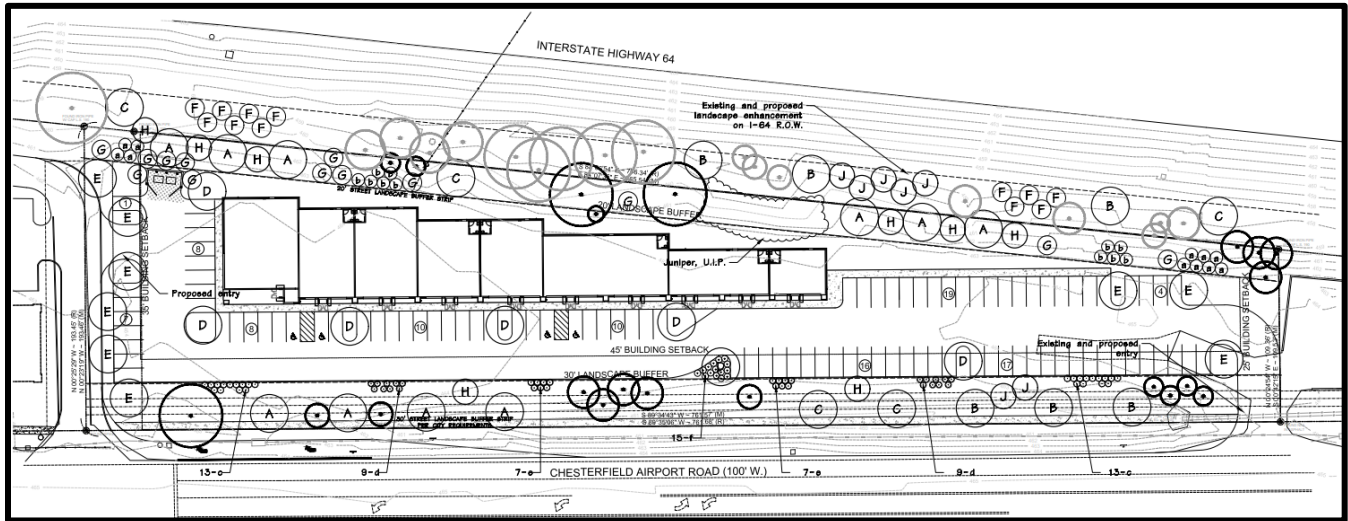

Figure 9: Landscape Plan
Landscaping surrounds the entire site with the most density along the north boundary seen in Figure 9 below. There are 71 trees proposed consisting of canopy trees (37), evergreen (25), and understory trees (15). As one enters the parking area they are greeted by Pin Oak canopy trees and then once arrived green Vase Zelkova canopy trees break up the parking area located primarily in the parking islands.